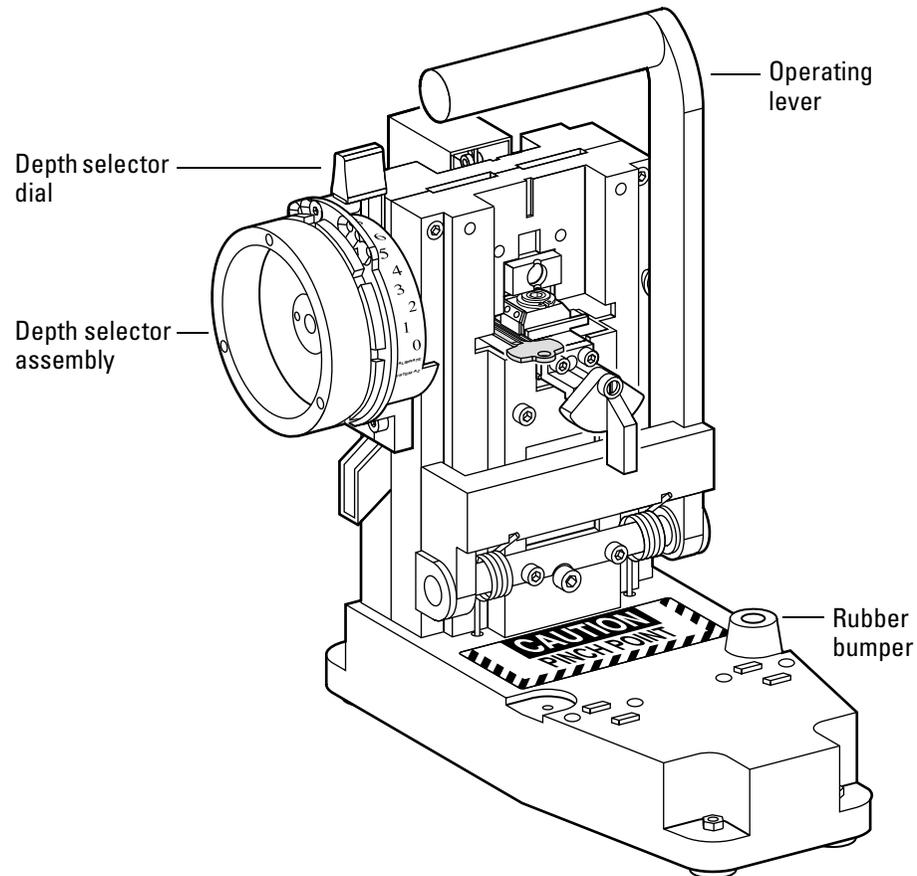

Figure 3.4 Cutting a key
4. Move the depth selector dial to the keycut depth number that you need for your key. See Figure 3.4.